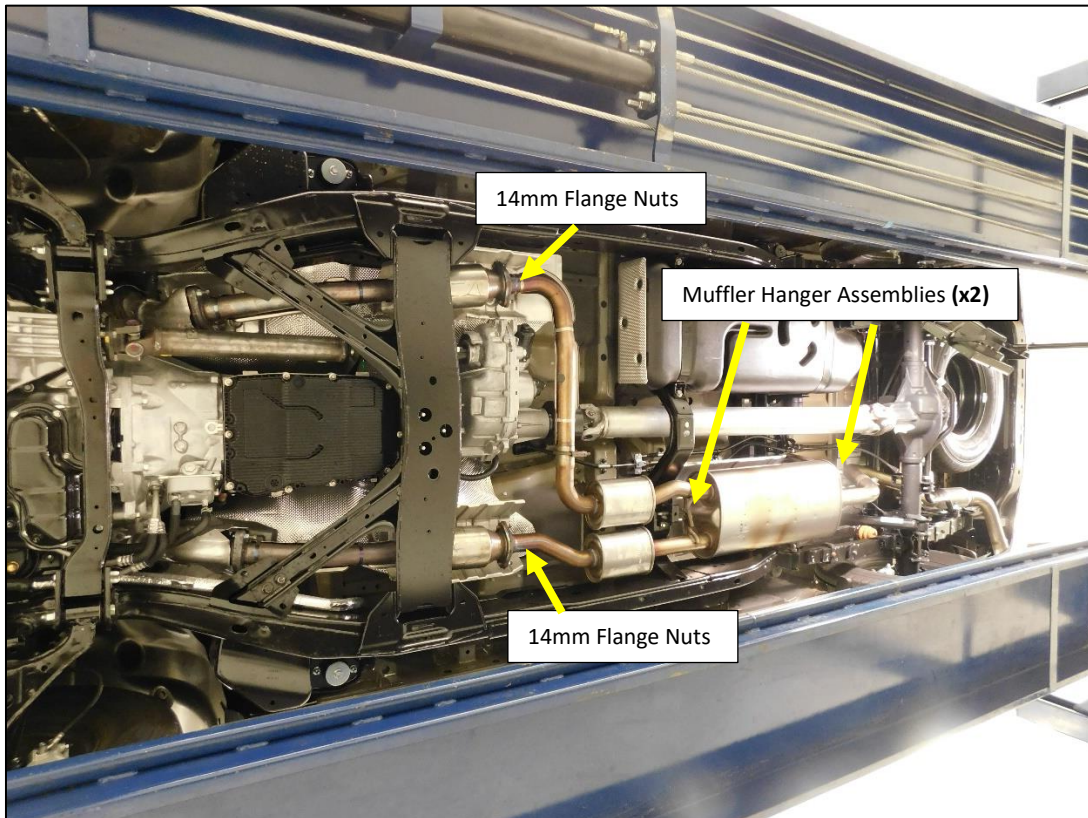

Figure 2
6. Remove the (x2 each) 14mm nuts at the flanges connecting the muffler inlet pipes to the catalytic converter. **Fig. 2**